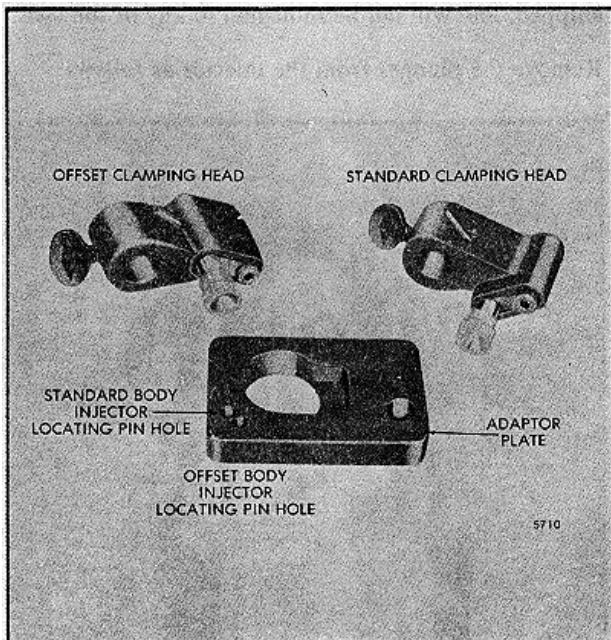
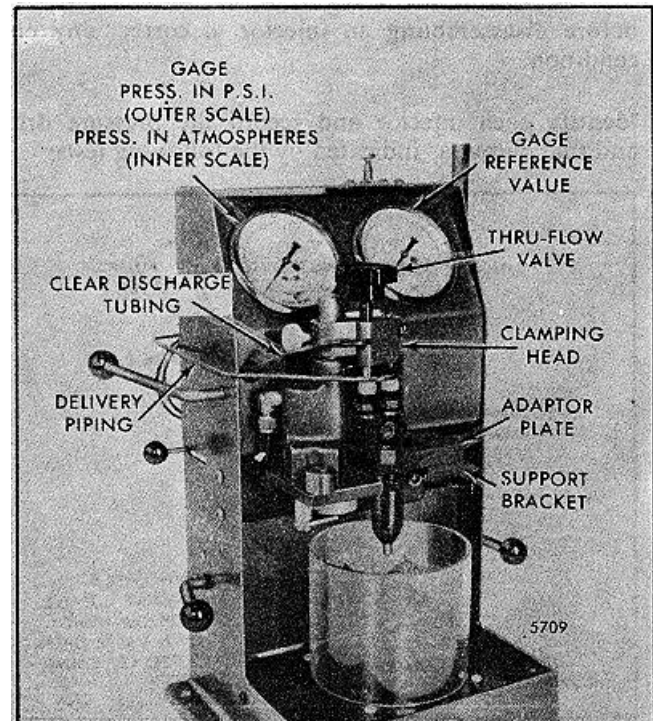

FIG. 11 - Injector Tester J 23010 Clamping Heads
FIG. 12 Injector Installed in Tester J 23010 with Clamping Head
1. Select the proper clamping head (Fig. 11). Position it on the clamping post and tighten the thumb screw into the lower detent position (Fig. 12).
5. Mount the injector through the large hole and insert the injector pin in the proper locating pin hole (Fig. 11).
2. Align the clamping head nylon seals over the injector filter caps (Fig. 12).